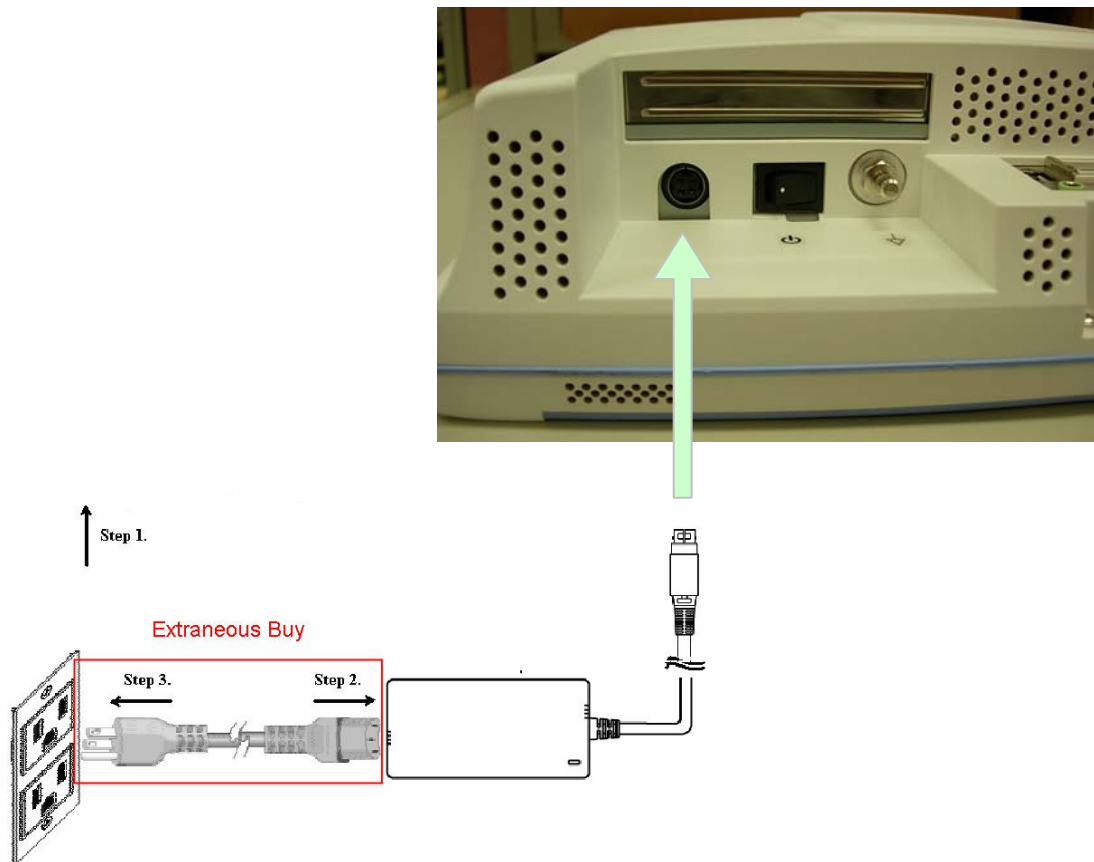

Figure 2-7: Connecting the power cord
1. Connect the female end of the power adapter to the DC jack of the panel PC. (See Figure 2-7.)